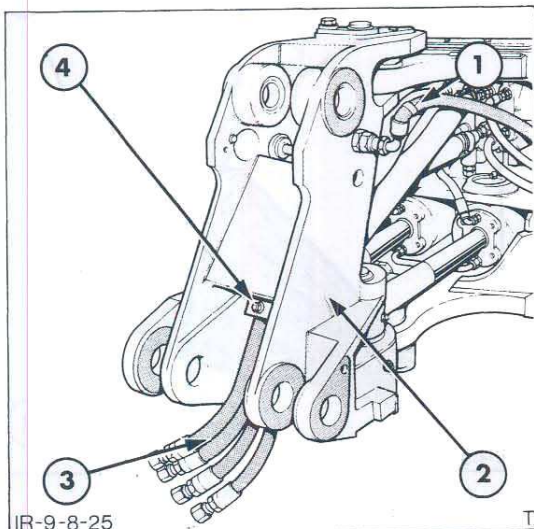

Figure 25
2. Mark or measure the relation of the hoses in the clamp securing the hoses to the swing post and remove the clamp, Figure 25.